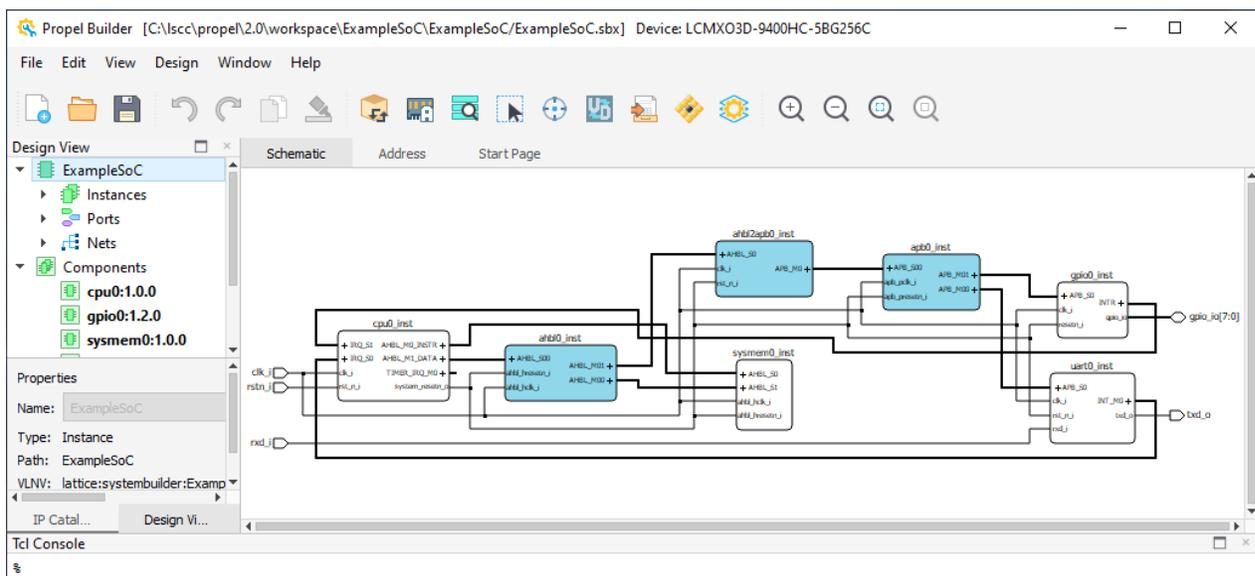

Figure 4.4. Propel Builder Window
- The created SoC project can be found in the workbench. Its design is opened and displayed in Propel Builder for review (Figure 4.4).